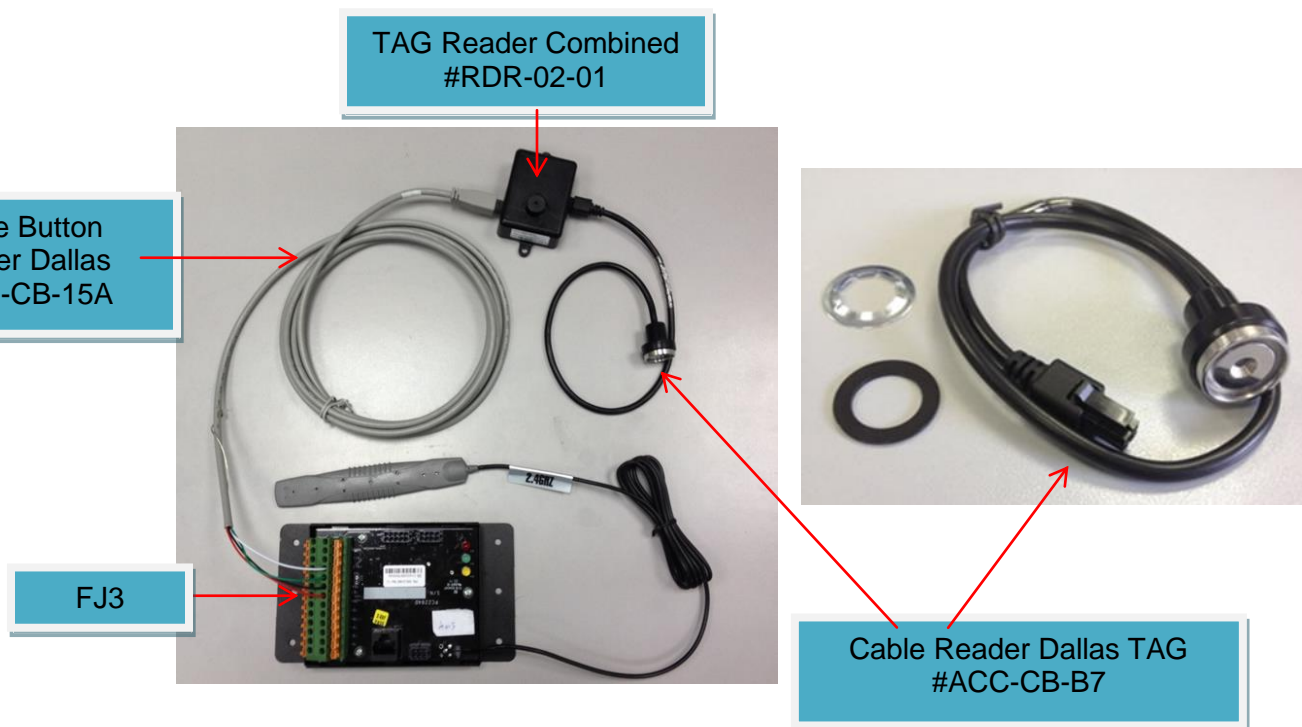

Figure 8: Wiring Dallas TAG Reader Set
**NOTE:** Optional Power Supply Connection refer to Figure 8.